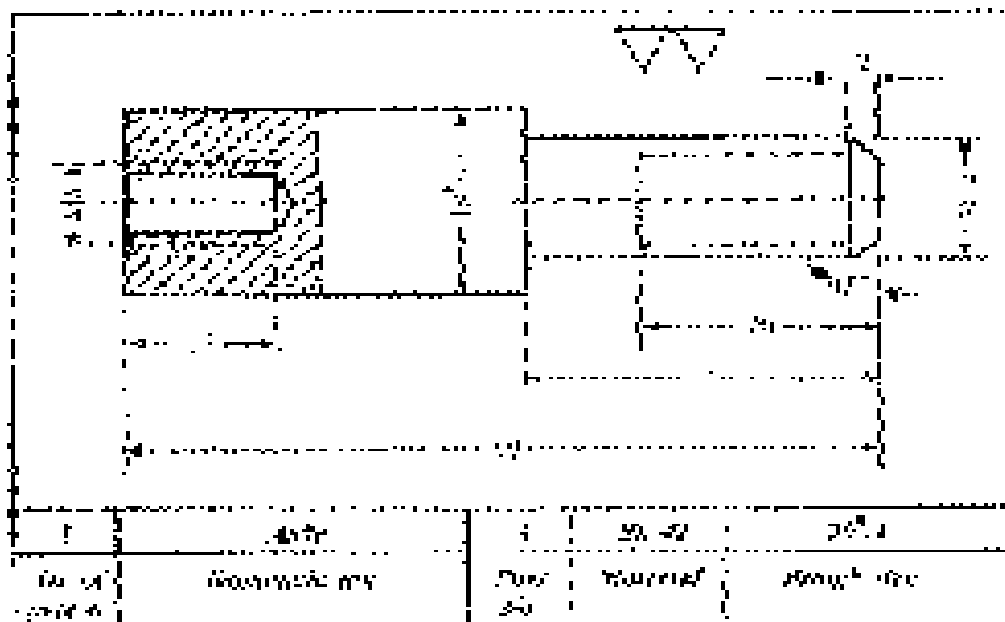

Fig. 2.5 Computer-aided design of a lathe part
3. Prepare a process plan for a component to be produced by using standard lathe machine as shown in fig. 2.5.